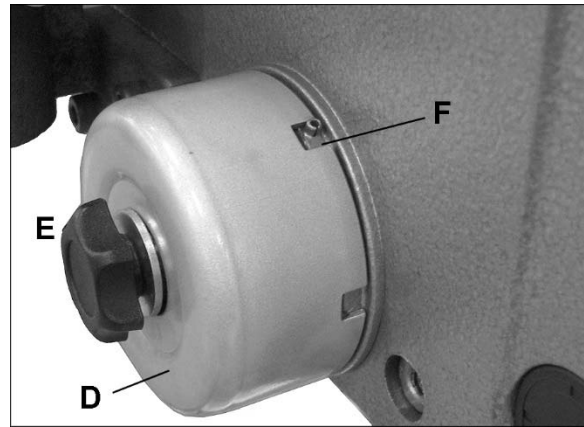

Figure 8-3
1. Do NOT remove spring cap (D, Figure 8-3).
2. Loosen knob (E) just enough to rotate spring cap past notch (F).
4. Re-tighten knob (E).